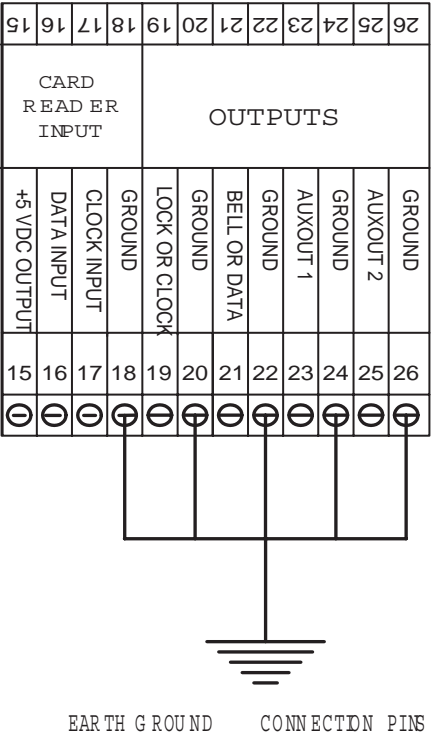

Figure 17-3: Earth Ground Connection Terminals
- Figure 17-3 on page 77 provides connection points for ground